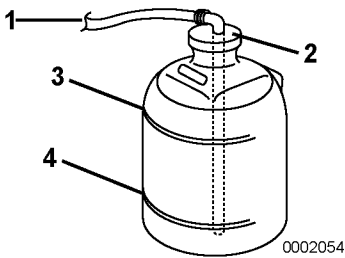

Figure 8
- Remove the coolant recovery tank cap (**Figure 8, (2)**) and fill with coolant mix to the lower limit (**Figure 8, (4)**). Replace cap. Never fill to the upper limit (**Figure 8, (3)**).
- Check the rubber hose (**Figure 8, (1)**) connecting the coolant recovery tank to the heat exchanger. Be sure the hose is securely connected and there is no looseness or damage.